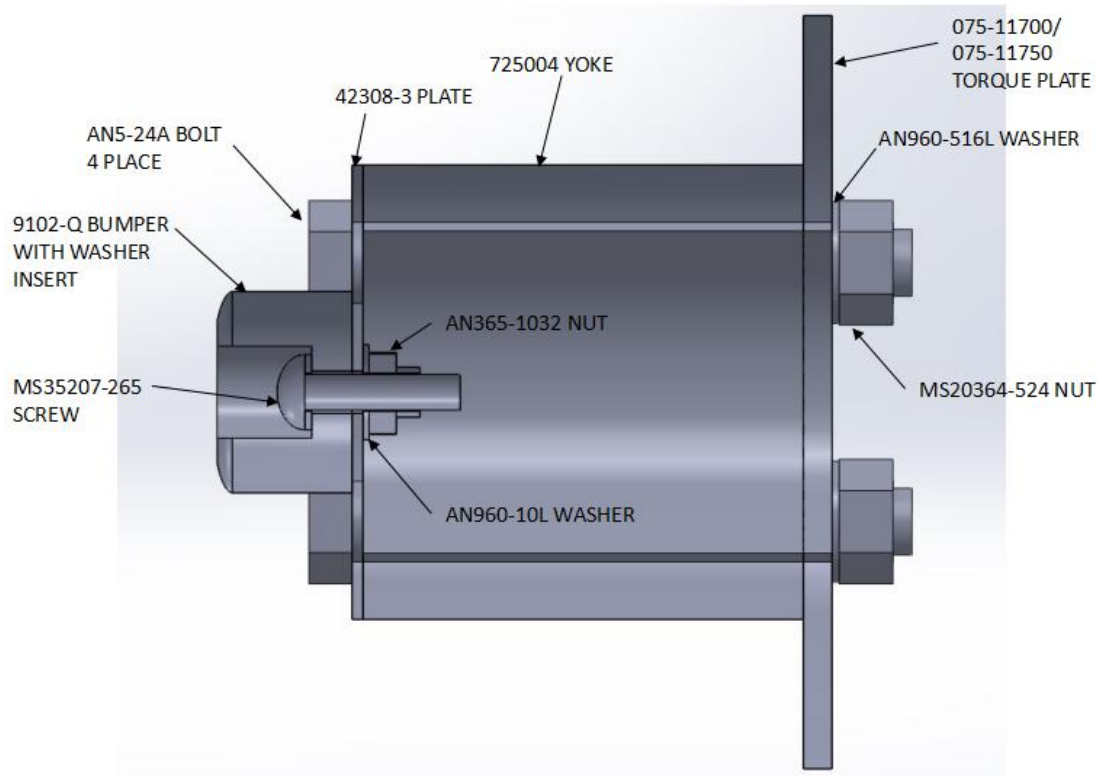

Figure 1
Determine that the AN5-24A bolts(4) are installed with the bolt heads on the inboard side of the Main Landing Gear yoke, common to the 42308-3 Plate(Refer to figure 1). Using an inspection mirror, determine